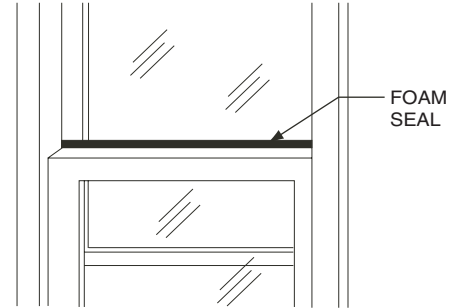

FIGURE 17 — SASH FOAM LOCATION
21. Cut foam (provided) to fit the length of the window. Insert the foam between the top of the lower window sash and the window panes of the upper window. See Fig. 17. Make sure there is a firm fit